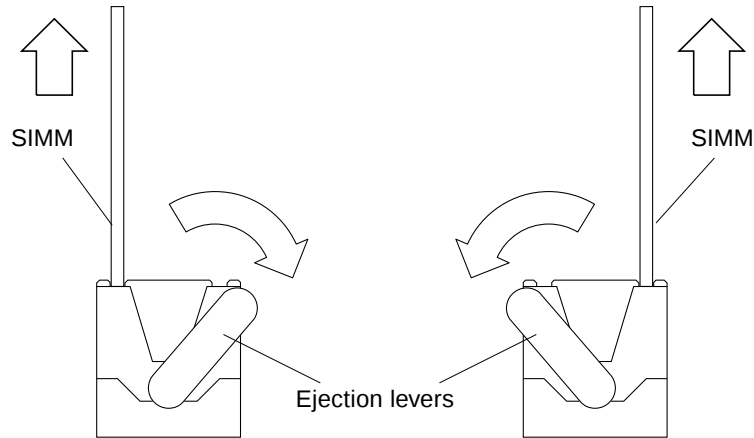

FIGURE 11-26 SIMM Ejection Levers
4. Using the eraser end of a pencil, move the ejection lever away from the SIMM to be removed (FIGURE 11-26).